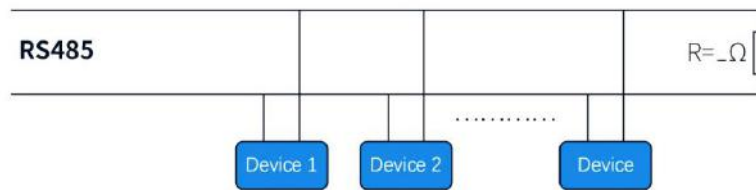

Figure 3-2
8. When using RS485 protocol to connect multiple devices, please refer to the connection method in Figure 3-2 below, but the resistance value needs to be determined according to the number of devices connected by the user.